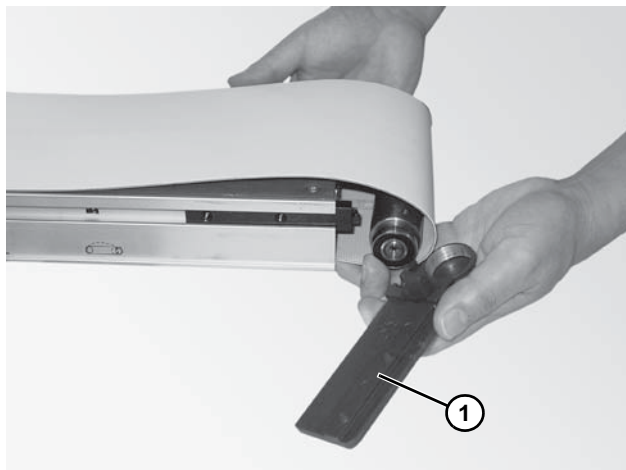

Figure 35
2. Remove the head plate (**Figure 35, item 1**) from the conveyor frame.